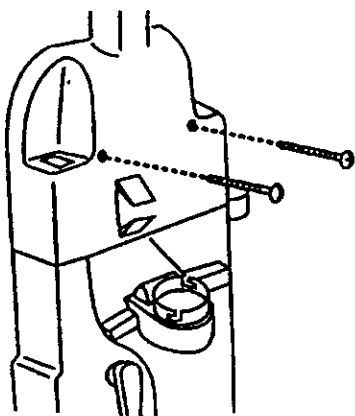

Fig. 13
1. Remove two bolts and lift off of bag housing. (Fig. 13).